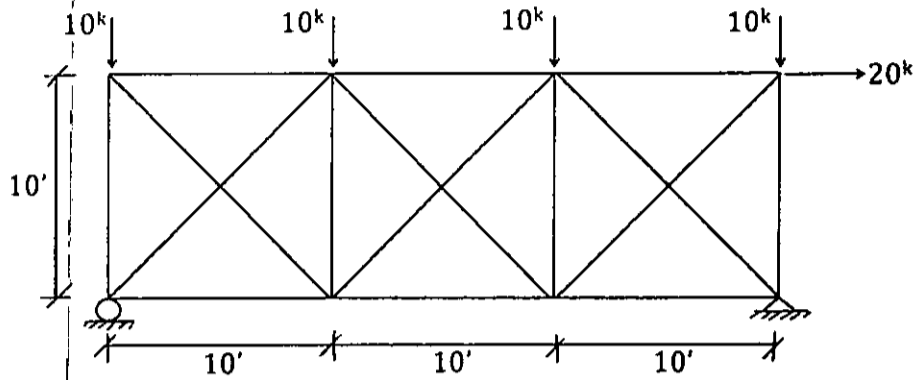

Figure 6.
6. Calculate all the bar forces for the truss shown in Figure 6. Assume that the diagonals can carry tension as well as compression. (28)